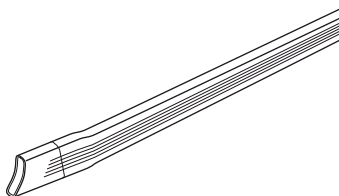

Fig. 9
■ **Long, flexible crevice nozzle (Fig. 9):** is used to vacuum *non-sensitive* carpets, runners, mats, and the like.